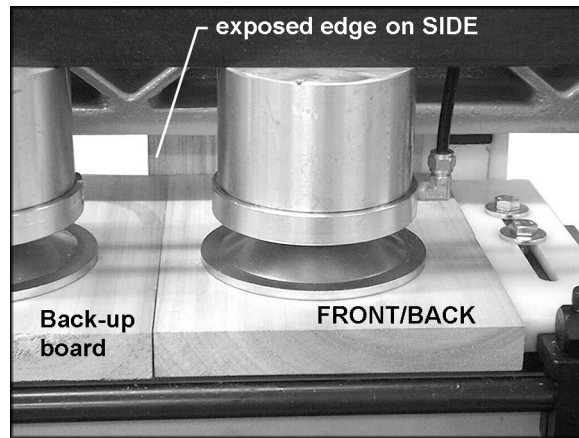

Figure 33
As noted previously, when the SIDE and FRONT/BACK pieces are inserted into the machine, they are offset a bit so they'll match correctly when assembled. In other words, the SIDE will rest slightly to the right of the FRONT/BACK in the machine. This leaves the right edge of the SIDE exposed without the "chipbreaker" effect that the FRONT/BACK provides for the rest of the SIDE (see Figure 33). This may result in an unsatisfactory cut at the edge of the SIDE.
This problem is resolved simply by taking a two-inch-plus wide "back-up" board, of the same thickness as the workpiece, and clamping it horizontally next to the FRONT/BACK piece, so that it backs up the exposed edge of the SIDE, as shown in Figure 33. You can use this piece over and over again.
3. Plywood has a tendency to chip out on exposed edges. A back-up board may be necessary (see Figure 33).